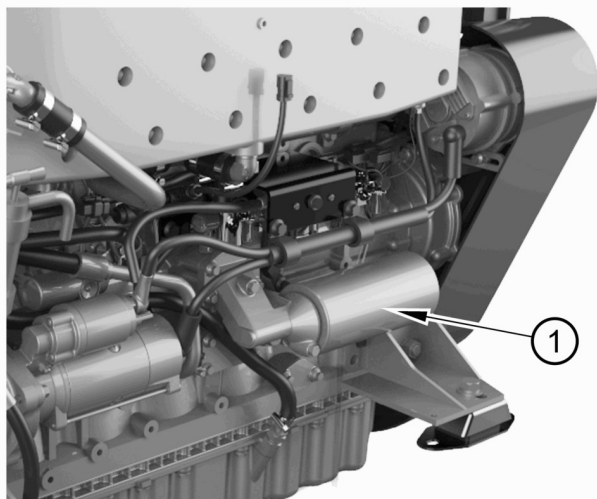
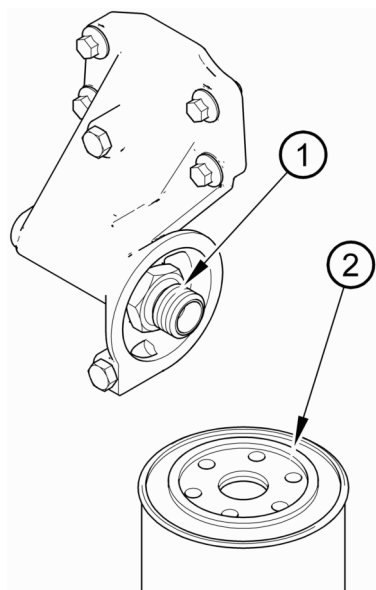

Figure 21
Figure 22
2. Remove the filter canister (figure 21 item 1) with a strap wrench or similar tool. Ensure that the adaptor (figure 22 item 1) is secure in the filter head. Then discard the canister.
4. Lubricate the top of the new canister seal (figure 22 item 2) with clean engine lubricating oil.